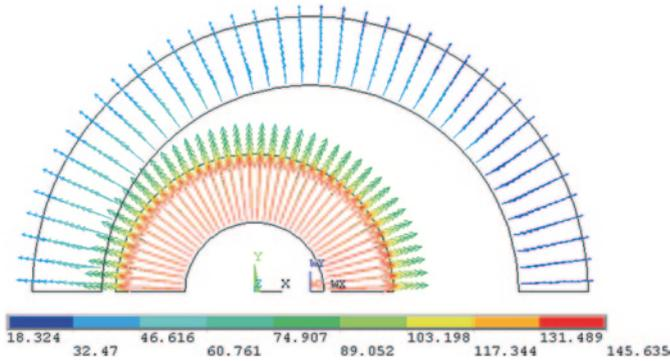

Fig. 9.69 Vector plot of heat flux
- Flux vectors appear in the *Graphics Window*, as shown in Fig. 9.69.